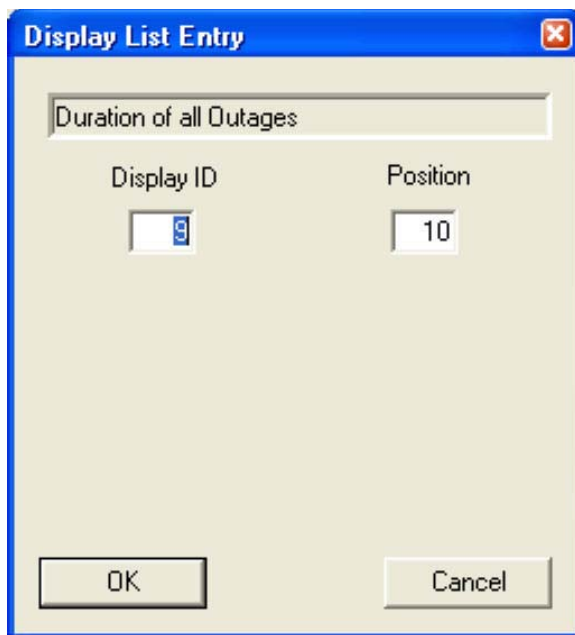

Figure 2.11. Display List Entry screen
The 'Pick List' is a complete list of registers in the meter which can be displayed by the meter. As the list of items is large (131) the full list of items on the Pick List are explained in detail in a separate chapter (Chapter 3 - Display Options). Selecting an item and then clicking the 'Add' button will produce the Display List Entry window shown in Figure 2.11. below (double clicking the item will produce the same screen). Clicking on the 'OK' button will move the item to the second list on the screen the 'Normal Display List'.